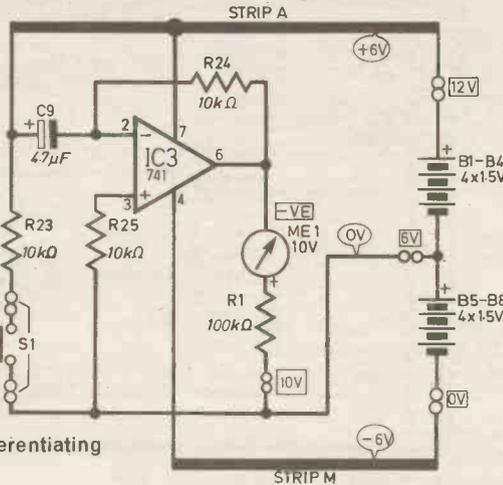

Fig. 12.6. Op-amp differentiating circuit.
The mathematical operation of differentiation is a way of calculating a rate of change. In Part 9 (EE June 1982) it was explained that the current flowing into or out of a capacitor depends on the rate of change of voltage. In this circuit (Fig. 12.6) we change the voltage on one side of a capacitor. The current flowing out of the other side goes to an op-amp.
- 12.5. If in Fig. 12.6, C9 was connected to +3V instead of +6V, and S1 was NOT pressed, what would be the reading on the meter?